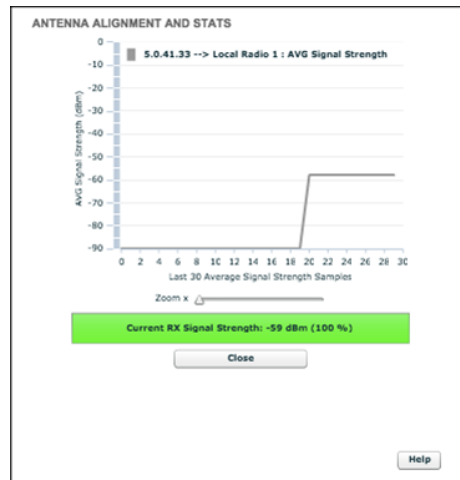

Figure 27. Antenna alignment and stats tool
- The **ANTENNA ALIGNMENT AND STATS** tool will be shown (Figure 27 (page 72)).